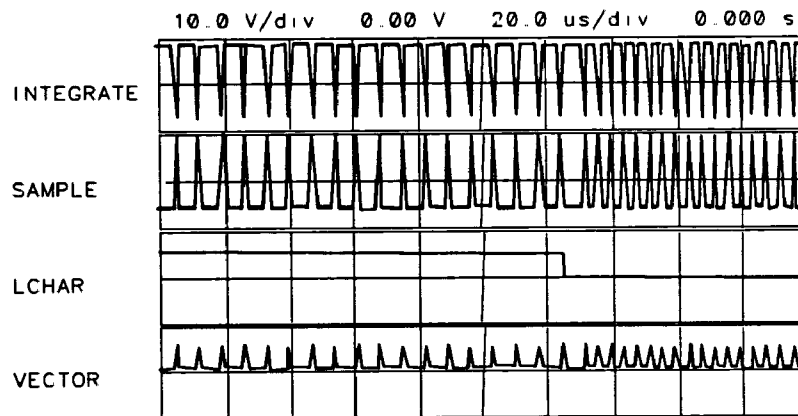

Figure 10-5. Switch Driver Waveform LCHAR
6. Compare the line-generator input signals at the following test points with those illustrated in Figure 10-5. INTEGRATE and SAMPLE waveforms are replicas of VECTOR except for polarity and amplitude. LCHAR is low when characters are drawn.